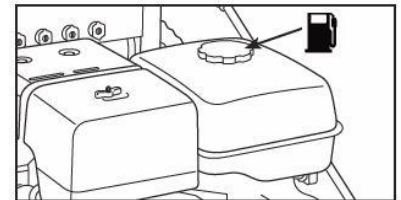

Fig. 4
5. Clean area around the fuel cap. (See Fig. 4)